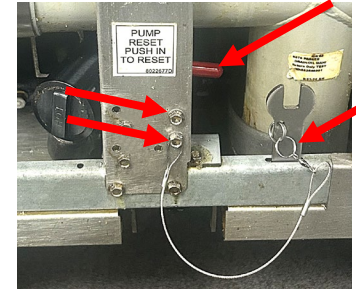

Figure 16
36. Using the provided screws, secure the reset bracket to the vertical frame. Ensure the wrench lanyard is behind the lower screw (see Figure 16).
37. Mount the wrench in the provided slot in the frame (see Figure 16).